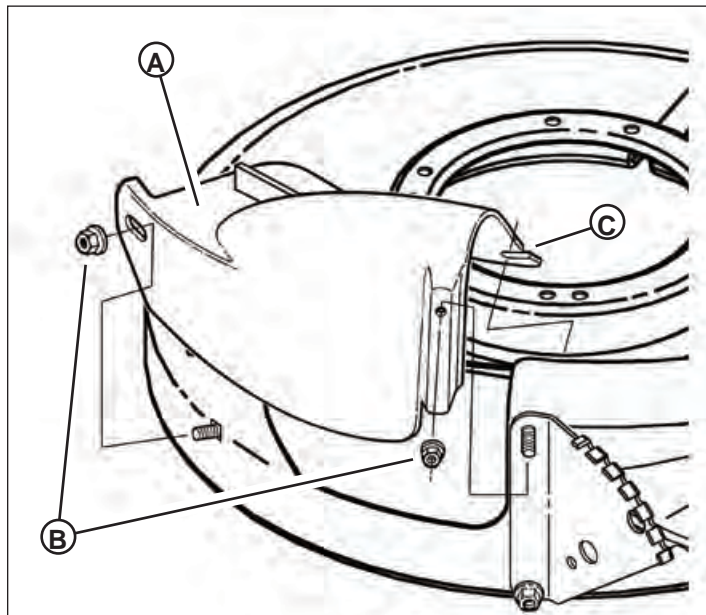

Figure 20
Install the recycling cover (A, Figure 20), securing to the side and top of the deck with the two nuts provided on the machine (B). Slide the top portion of the cover under the nut and make sure the slot (C) is completely underneath the nut.